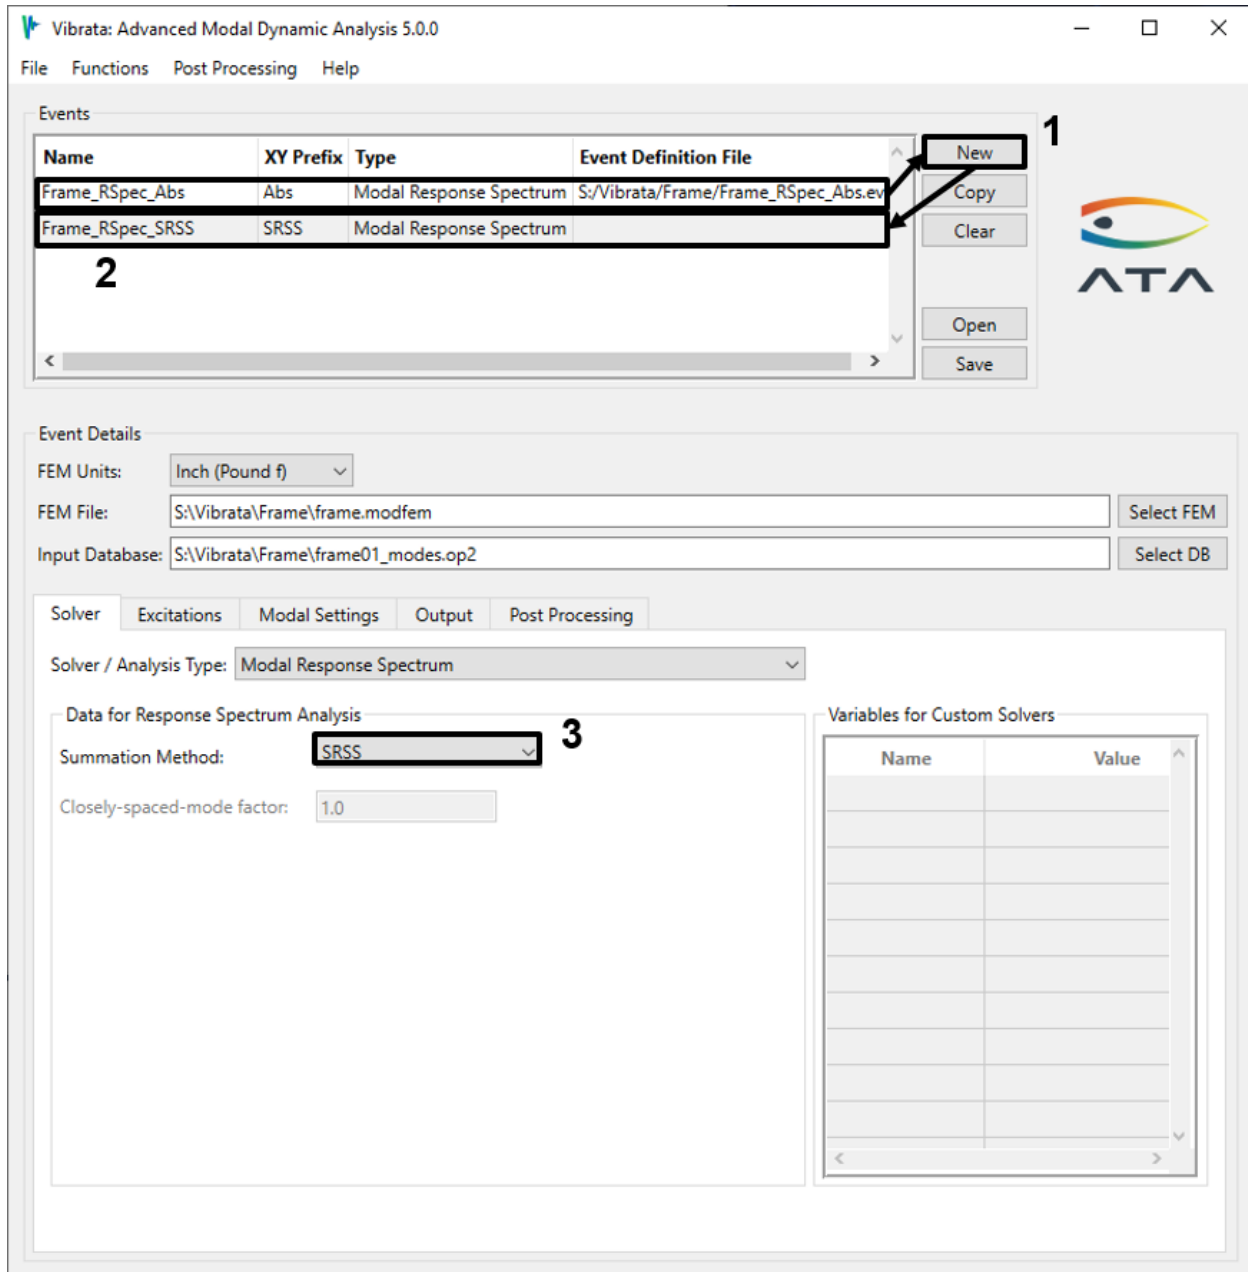

Figure 4-84. Copy the event and change the summation method to SRSS.
9. Copy this event. Change the summation method to *SRSS* and change the event name to reflect this (Figure 4-84). Solve the SRSS event.